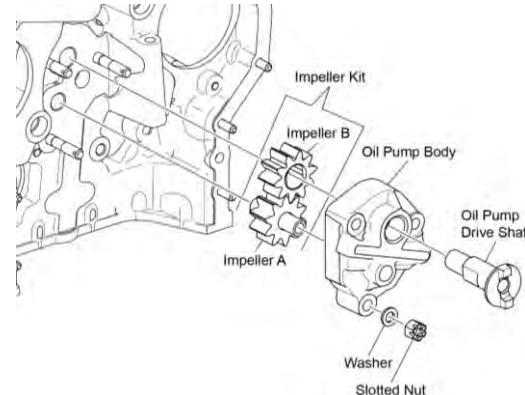

Figure 4
- C. Remove the oil pump drive shaft from impeller B (Figure 4) on the oil pump.
- B. Install impellers A and B in their respective compartments in the oil pump body (Figure 4).
- C. Install the oil pump drive shaft into the oil pump body and through impeller B (Figure 4).